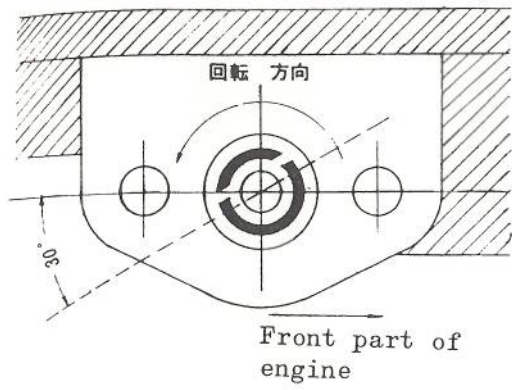

Fig. 4-44
- (3) The pinion gear comes into engagement with the helical gear on the camshaft and should be so arranged that when viewed from the distributor mounting hole, the smaller half of the pinion end appears slightly turned toward the right handside with the groove in the pinion end facing the cylinder wall at an angle of 30°. (See Fig. 4-44)